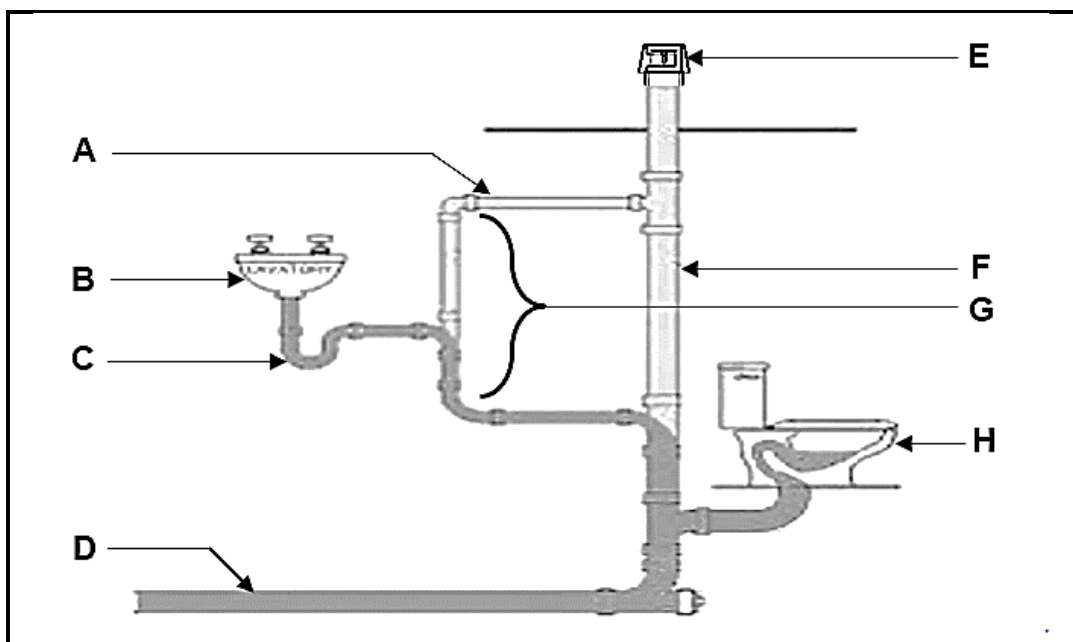

FIGURE 5.1
5.1 Answer the following questions regarding the drainage system in FIGURE 5.1.